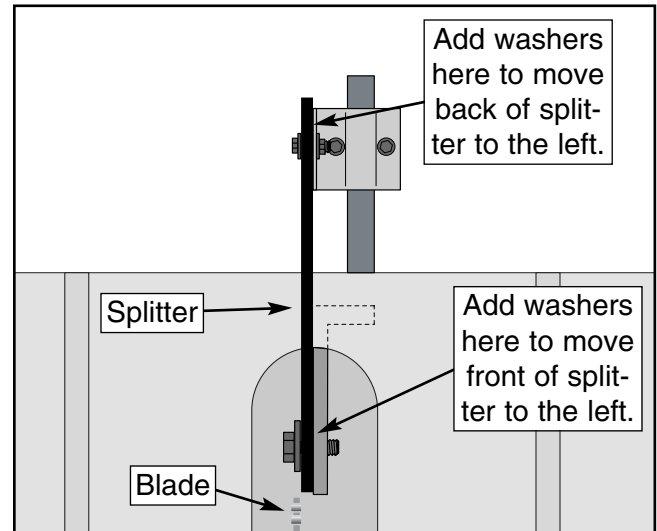
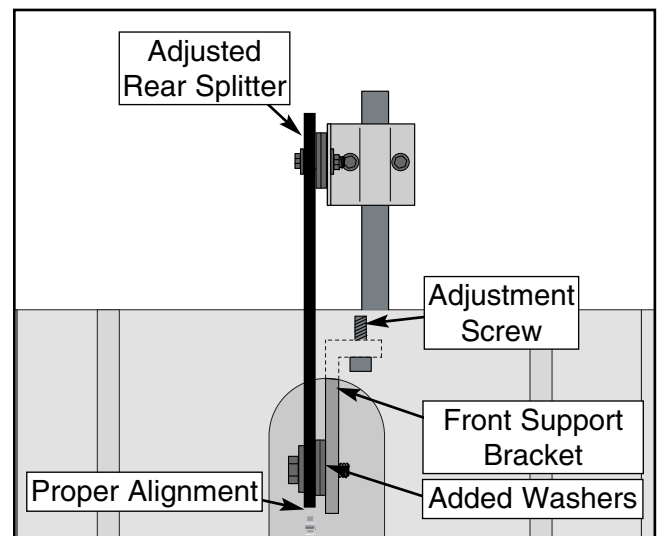

Figure 21. Improper splitter/blade alignment.
Figure 22. Proper splitter/blade alignment.
5. If the blade splitter is to the right of the blade as shown in **Figure 21**, simply add washers between the splitter and the front mounting bracket, and adjust the rear splitter support as shown in **Figure 22**.
7. If the splitter is positioned to the left of the blade, alignment cannot be achieved by washer placement. Adjustment of the front support bracket is required. See **Figure 21** for adjustment details. Loosen the 2 adjustment screws and move left or right.